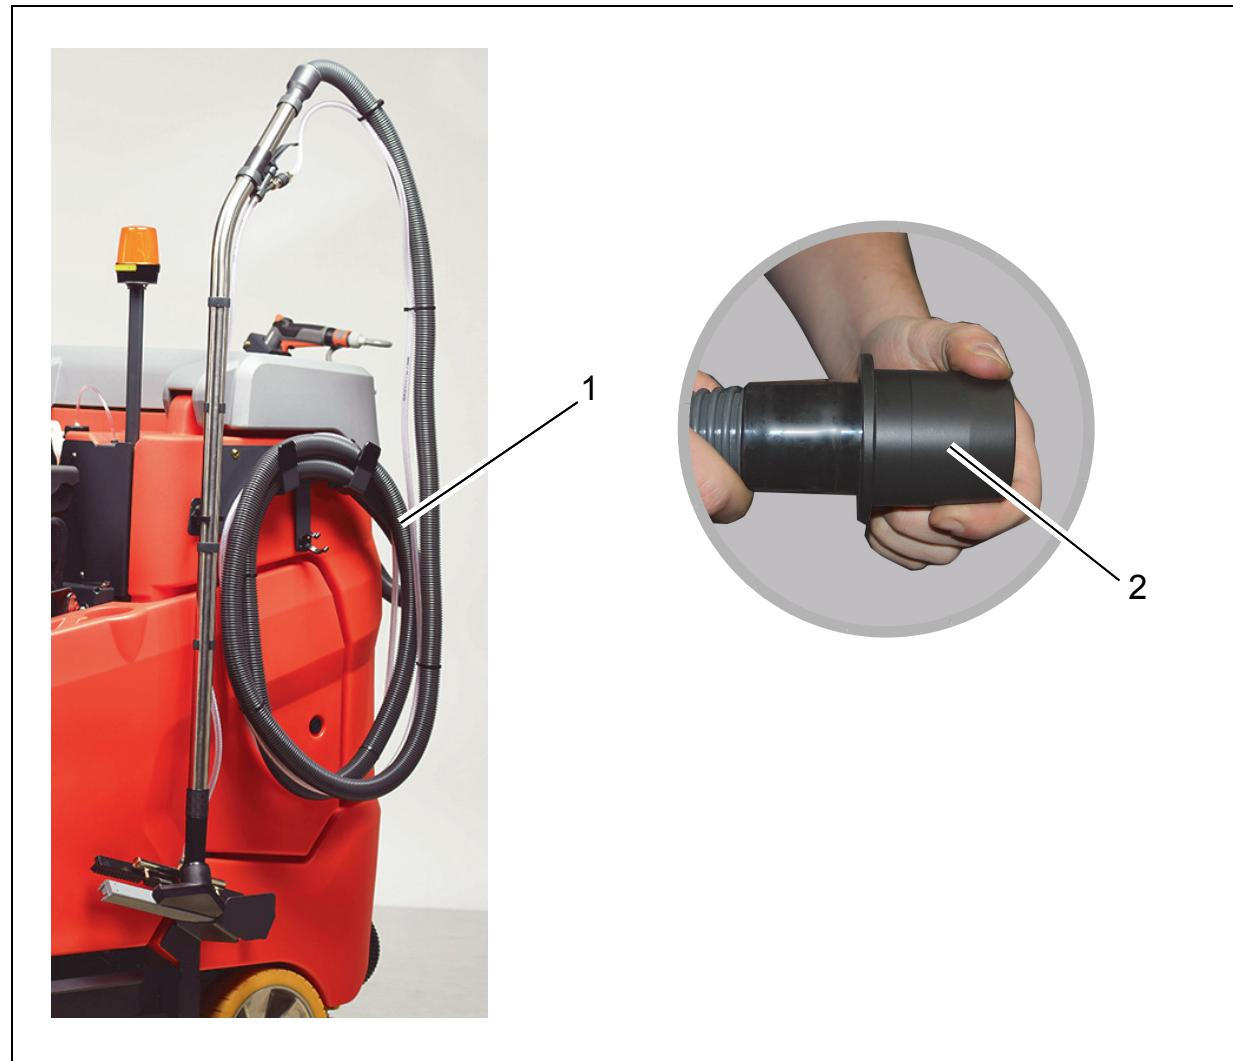

Fig. 4
1. Attach spray suction tool (option 7009.10) (Fig. 4/1) as shown in the illustration.
2. Securely attach sleeve (Fig. 4/2) to end of hose of spray suction tool.